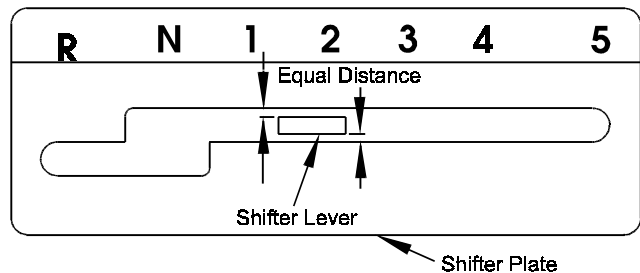

FIG. 7
- b) Shift lever to second gear and check alignment of lever in slot of shifter plate. Clearance between top of lever and the top of the slot should be about equal to the clearance between bottom of the lever and the bottom of the slot (See figure 7). If it is not, remove lever and bend it slightly to adjust. DO NOT Bend lever while it is attached to transmission. Reinstall lever and tighten hardware.